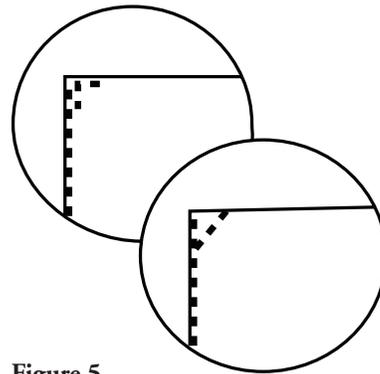

Figure 5
- Secure and reinforce top of pocket by sewing a bar tack or triangle in each corner (Figure 5).
- Secure and reinforce the top of the pocket by backstitching or sewing a triangle in each corner (Figure 5).